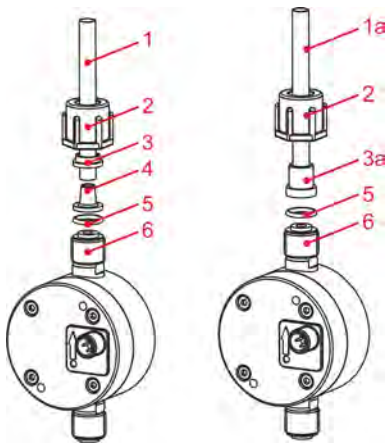

Fig. 3: Overview
- Cut the hose (Fig. 3, pos. 1) at right angles.
- Slip the union nut (Fig. 3, pos. 2) and clamping element (Fig. 3, Pos. 3) over the hose.
- Slip the hose onto the cone (Fig. 3, pos. 4) up to the stop collar.
- Position the O-ring seal (Fig. 3, pos. 5) into the groove provided on the connecting adapter (Fig. 3, pos. 6).
- Connect the hose and cone (Fig. 3, pos. 4) and tighten the union nut (Fig. 3, pos. 2).
- Cut the pipe (Fig. 3, pos. 1a) at right angles.
- Slip the union nut (Fig. 3, pos. 2) over the pipe.
- Weld / adhesive bond the insert (Fig. 3, pos. 3a) to the pipe.
- Position the O-ring seal (Fig. 3, pos. 5) in the groove provided on the connecting adapter (Fig. 3, pos. 6).
- Tighten the union nut (Fig. 3, pos. 2).